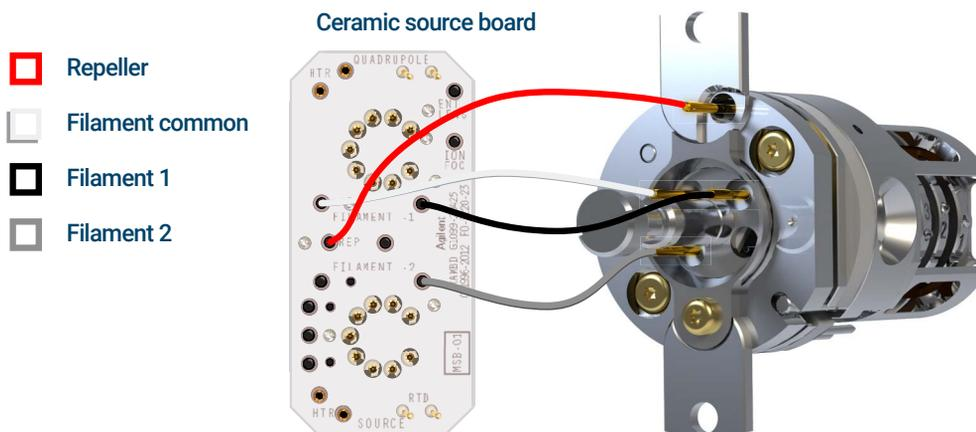

Figure 50 Wiring to be connected/disconnected during source installation or removal.
- 1 Use tweezers or needle nose pliers to connect/disconnect the ceramic board wire leads (red, white, black, and gray) at the source connectors. (See Figure 50.)